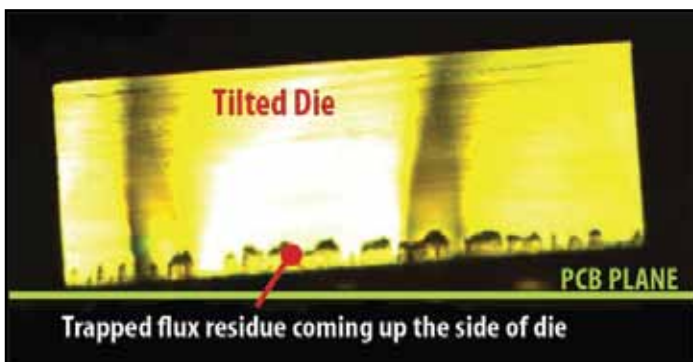

Figure 12: Side view of an eGaN FET with severe die tilt after soldering
During product testing and assembly process development, several parts were observed to be tilted after reflow using a solder stencil process (Figure 12). The main causes of die tilt were found to be; (1) uneven thickness of solder paste, (2) excessive vibration during reflow, (3) non-optimized temperature profile and (4) oversized solder mask and / or oversized solder stencil.